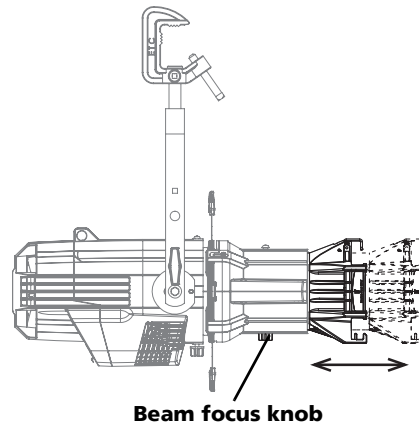

Figure-1.4 Focusing the beam.
- Step 1: Loosen the beam focus knob located under the barrel as shown in Figure-1.4.